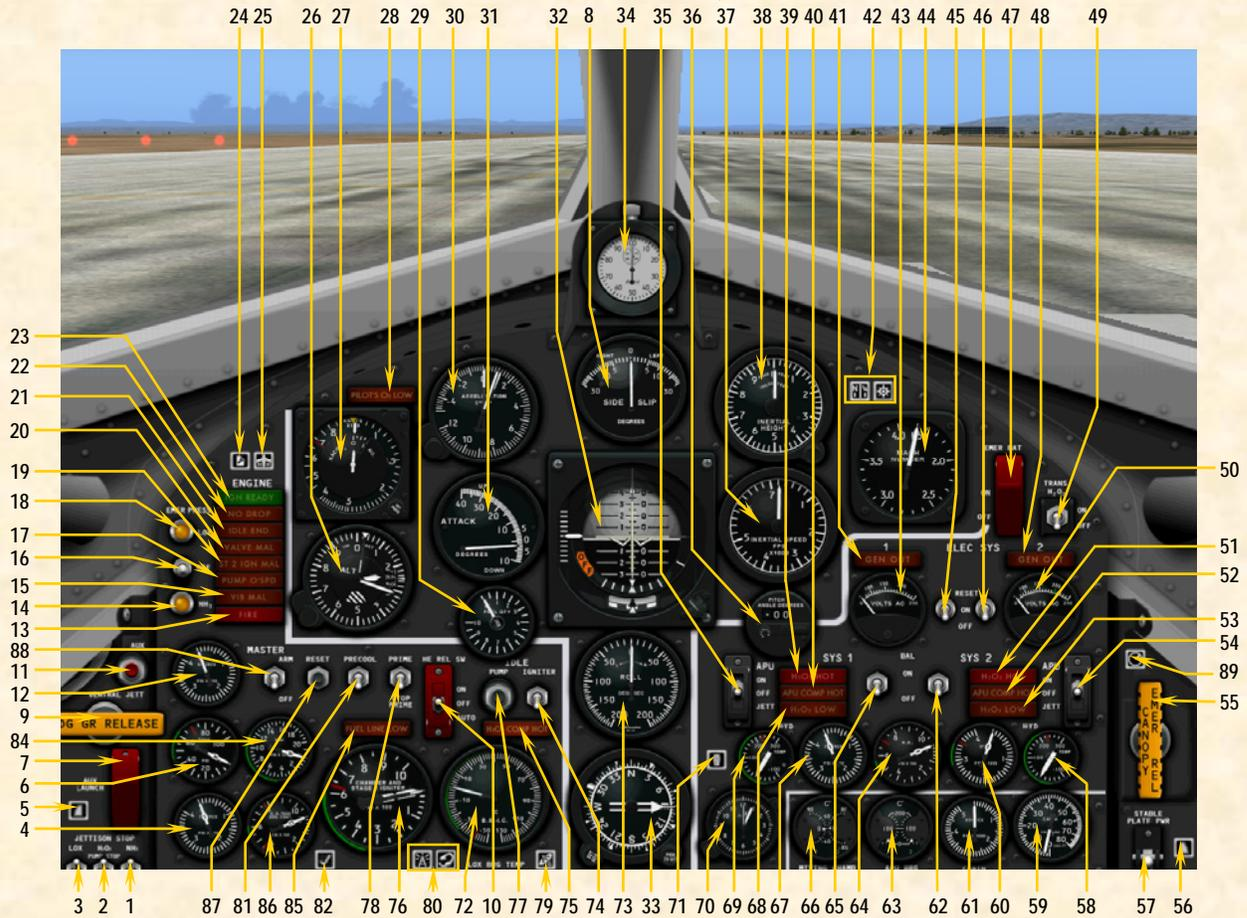

Figure 4-1
19. Mixing chamber temperature gauge [66, fig. 4-1, 4-2, 4-3; 61, fig. 4-4] – **Check**.
20. APU bearing temperature gauge [63, fig. 4-1, 4-2, 4-3; 62, fig. 4-4] – **Check**.
21. Cabin source pressure gauge [61, fig. 4-1, 4-2, 4-3; 59, fig. 4-4] – **Check**.
22. Cabin pressure altimeter [59, fig. 4-1, 4-2, 4-3; 60, fig. 4-4] – **Check**.
1. Click the **DISPLAY/HIDE CENTER PEDESTAL** icon [71, fig 4-1, 4-2, 4-3, 4-4] at the center of the main panel to display the center pedestal (or select **CENTER PEDESTAL** from the “Instrument Panel” menu, under the “View” menu of the main Flight Simulator window menu bar).
1. APU switch No. 1 [35, fig. 4-1, 4-2, 4-3; 67, fig. 4-4] – **ON.** As APU No. 1 comes up to speed, hydraulic pressure will increase and then stabilize at 3000 to 3500 psi.
2. No. 1 generator switch [45, fig. 4-1, 4-2, 4-3; 44, fig. 4-4] – Move No. 1 generator switch momentarily to **RESET**, then to **ON.**
3. No. 1 generator out (amber) light [41, fig. 4-1, 4-2, 4-3; 42, fig. 4-4] – Check **OFF.**
4. APU switch No. 2 [54, fig. 4-1, 4-2, 4-3, 4-4] – **ON.** As APU No. 2 comes up to speed, hydraulic pressure will increase and then stabilize at 3000 to 3500 psi.
5. No. 2 generator switch [46, fig. 4-1, 4-2, 4-3; 49, fig. 4-4] – Move No. 2 generator switch momentarily to **RESET**, then to **ON.**
6. No. 2 generator out (amber) light [48, fig. 4-1, 4-2, 4-3; 47, fig. 4-4] – **Check OFF.**
7. Stable platform power switch [57, fig. 4-1, 4-2, 4-3; 58, fig. 4-4; 9, fig. 4-7] – **INT (up position).**
10. No. 1 generator voltmeter [43, fig. 4-1, 4-2, 4-3; 45, fig. 4-4] – **Check (200 volts, internal).**
11. No. 2 generator voltmeter [50, fig. 4-1, 4-2, 4-3; 45, fig. 4-4] – **Check (200 volts, internal).**
12. Hydraulic pressure gauge [60, fig. 4-1, 4-2, 4-3; 36, fig. 4-4] – **Check (both pointers, 3000 to 3500 psi).**
13. Chamber and stage 2 igniter pressure gauge [76, fig. 4-1, 4-2, 4-3; 28, fig 4-4] – **Check (both pointers, 0 psi).**
14. Liquid oxygen bearing temperature gauge [72, fig. 4-1, 4-2, 4-3] – **Check.**
15. H₂O₂ source and purge pressure gauge [4, fig. 4-1, 4-2, 4-3, 4-4] – **Check (pointers 1 and 2, 3000 to 3900 psi).**
16. H₂O₂ tank and engine control line pressure gauge [86, fig. 4-1, 4-2, 4-3; 79, fig. 4-4] – **Check (both pointers, 575 to 615 psi).**
18. Turbopump idle button [77, fig. 4-1, 4-2, 4-3; 78, fig. 4-4] – **Push once.** This will start the engine turbopump and hot exhaust gas will be emitted at the back of the aircraft.
19. Propellant manifold pressure gauge [84, fig. 4-1, 4-2, 4-3; 72, fig. 4-4] – **Check (both pointers, 300 to 450 psi).**